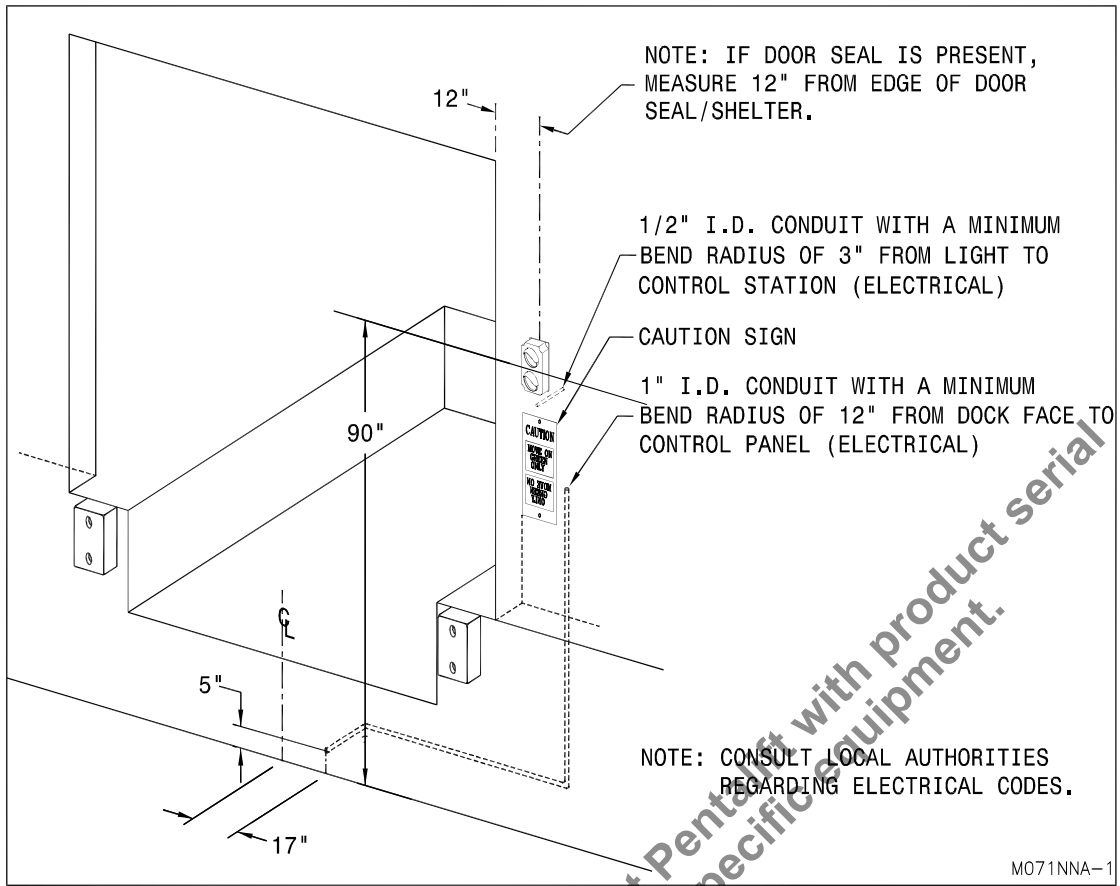

Figure 10: Light, Sign and Conduit Locations
3. \_\_\_ Mount outside light set approximately 90" high from the center of the light to the finished driveway level (see "Figure 10: Light, Sign and Conduit Locations" on page 12).